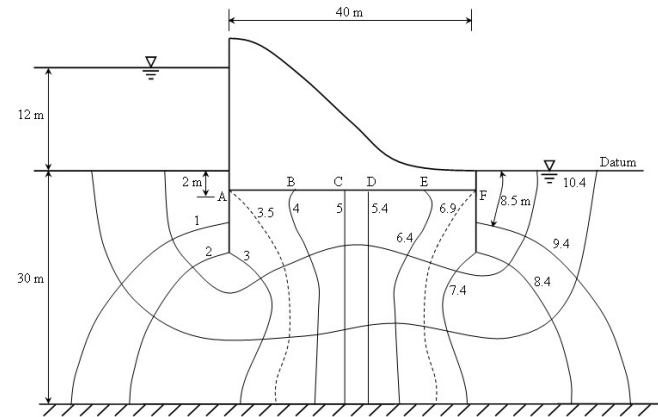

Fig.3
- (b) The dam and flownet are shown in figure 3. The dam is 120 m long and has two nos. 10 m long sheet piles driven partially into the granular soil layer. Datum is at the tailwater elevation. Determine the pressures at B, C, D and E.